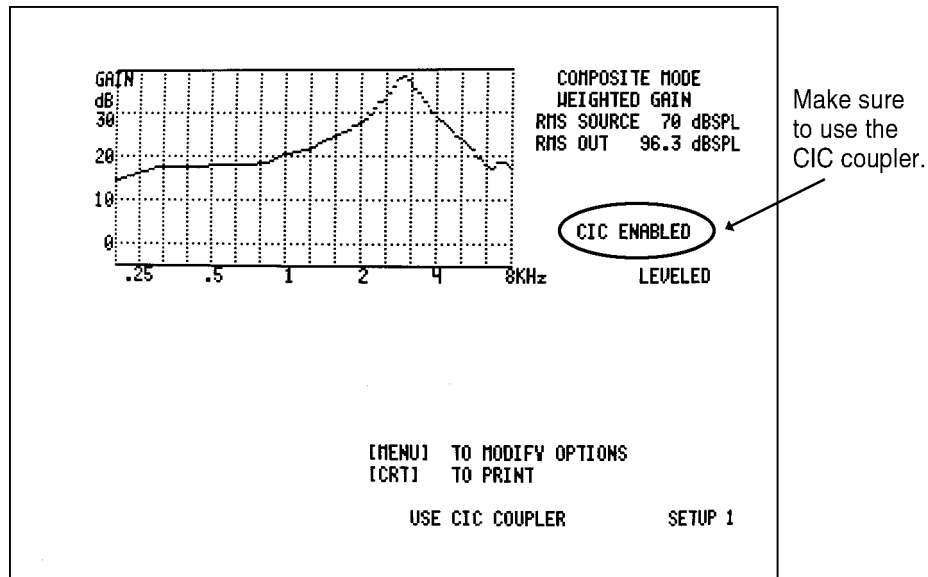

Figure 7.3.2A—CIC Option
5. Press [START]. This will add the CIC correction factors to the Composite Mode or Pure-Tone Mode Screens. See Figure 7.3.2A.